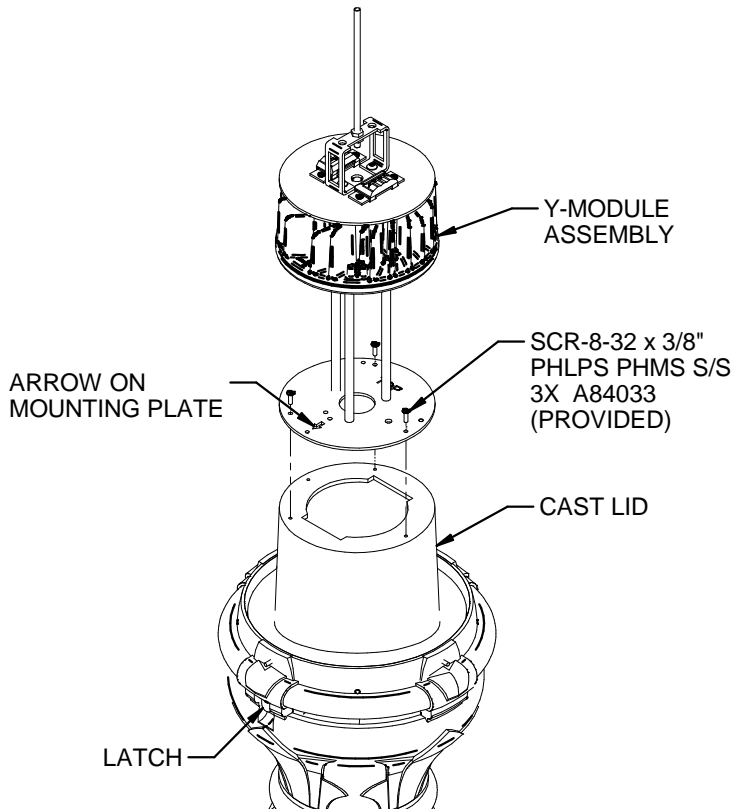

FIG. 3-1
1. INSTALL Y-MODULE TO CAST LID **WITH ARROW ON MOUNTING PLATE POINTING TO LATCH ON CAST LID** USING PROVIDED 8-32 X 3/8" SCREWS. (FIG. 3-1)